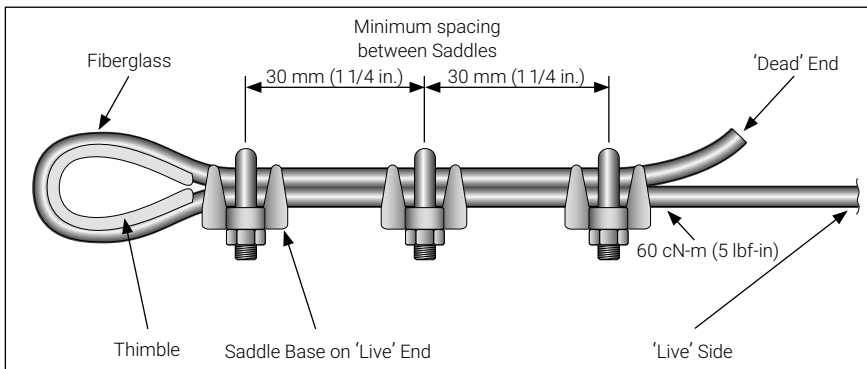

Figure 21: Correct methods of guying
- Each of the guying kits comes with six stainless steel thimbles to relieve stress on the guys at the anchor points. These thimbles **MUST** be used when guying, (see Figure 21).